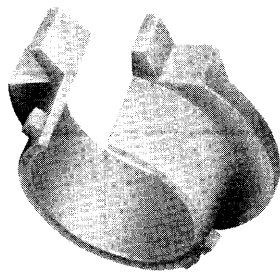
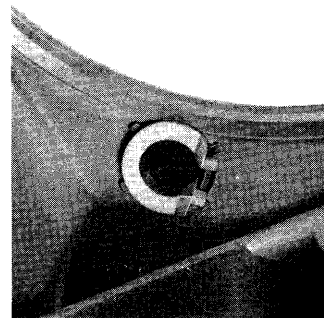

Fig. 13—811455824 (P-14E582) Retainer Ring
Fig. 14—Retainer Ring Mounted in Set Housing
- (1) The 500W,Y, YM, 514B, and BM telephone sets can be equipped with a retainer ring (Fig. 13) to prevent pilferage of the lamp cap assembly.
- (2) Install retainer ring as follows.
- (c) Insert retainer ring into lamp cap so that retainer ring engaging pins fit into lamp cap slots (Fig. 14).